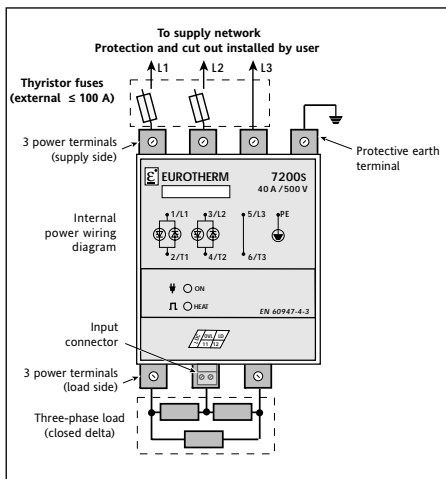

Figure 2-8 Connecting a three-phase load using Closed Delta configuration (3D)
- closed delta (3 connection wires, code 3D), figure 2-8